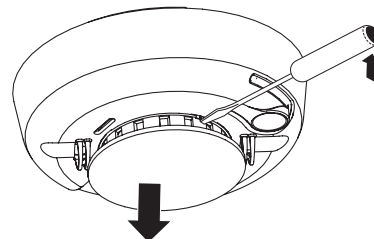

Figure 4. Removing the Smoke Alarm Cap
3. Slide a flat-blade screwdriver in the slot on the alarm cap and gently push the handle down to pry the alarm cap up and off. See Figure 4.